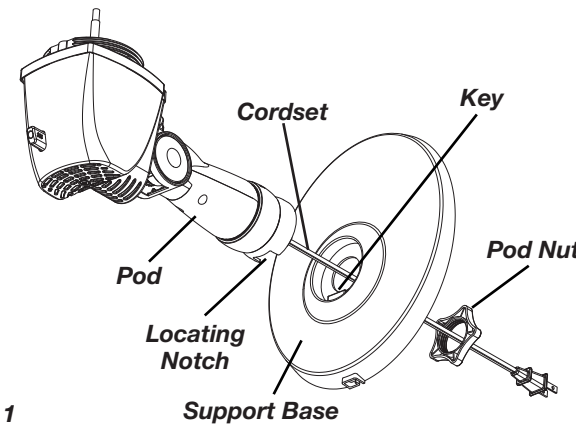

Figure 1
1. Attach base - unscrew *Pod Nut* counter clockwise, insert cordset through hole of base. Make certain to align the *Key* on the *Support Base* with the *Locating Notch* on the *Pod*. Insert *Pod* into hole in base. Thread *Cordset* through *Pod Nut* and screw *Pod Nut* clockwise until hand tight. (Figure 1)